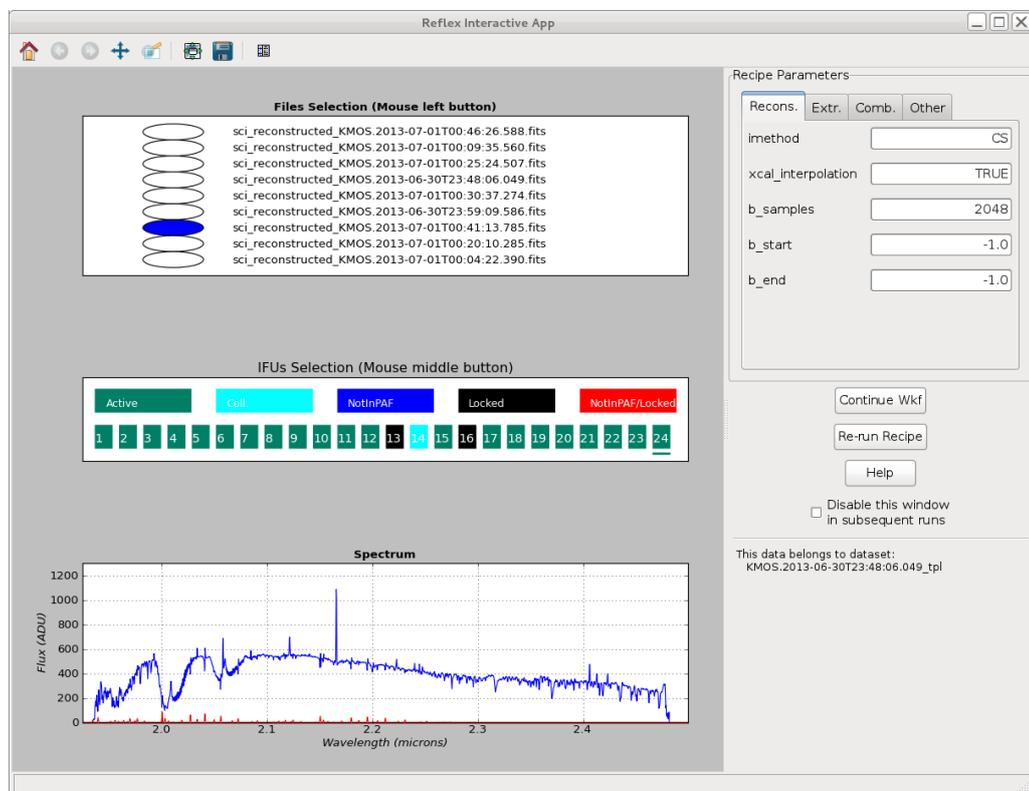

Figure 10.3: The interactive window for the Science Reduction actor as displayed for the KMOS tutorial data set..
5. **Science Reduction:** Figure 10.3 shows the interactive window that will pop-up at the end of the execution of the *kmo\_sci\_red* pipeline routine.